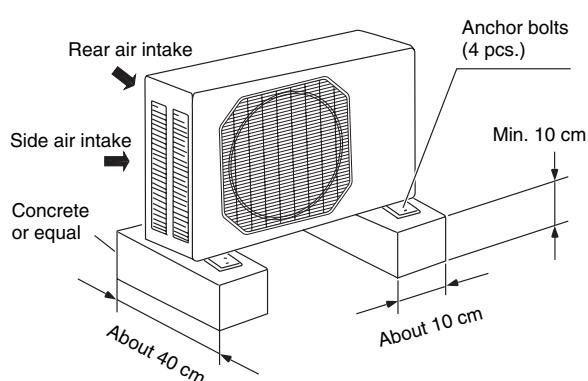

Fig. 4c
- provide a solid base (concrete block, 10 × 40 cm beams or equal), a minimum of 10 cm above ground level to reduce humidity and protect the unit against possible water damage and decreased service life. (Fig.4c)